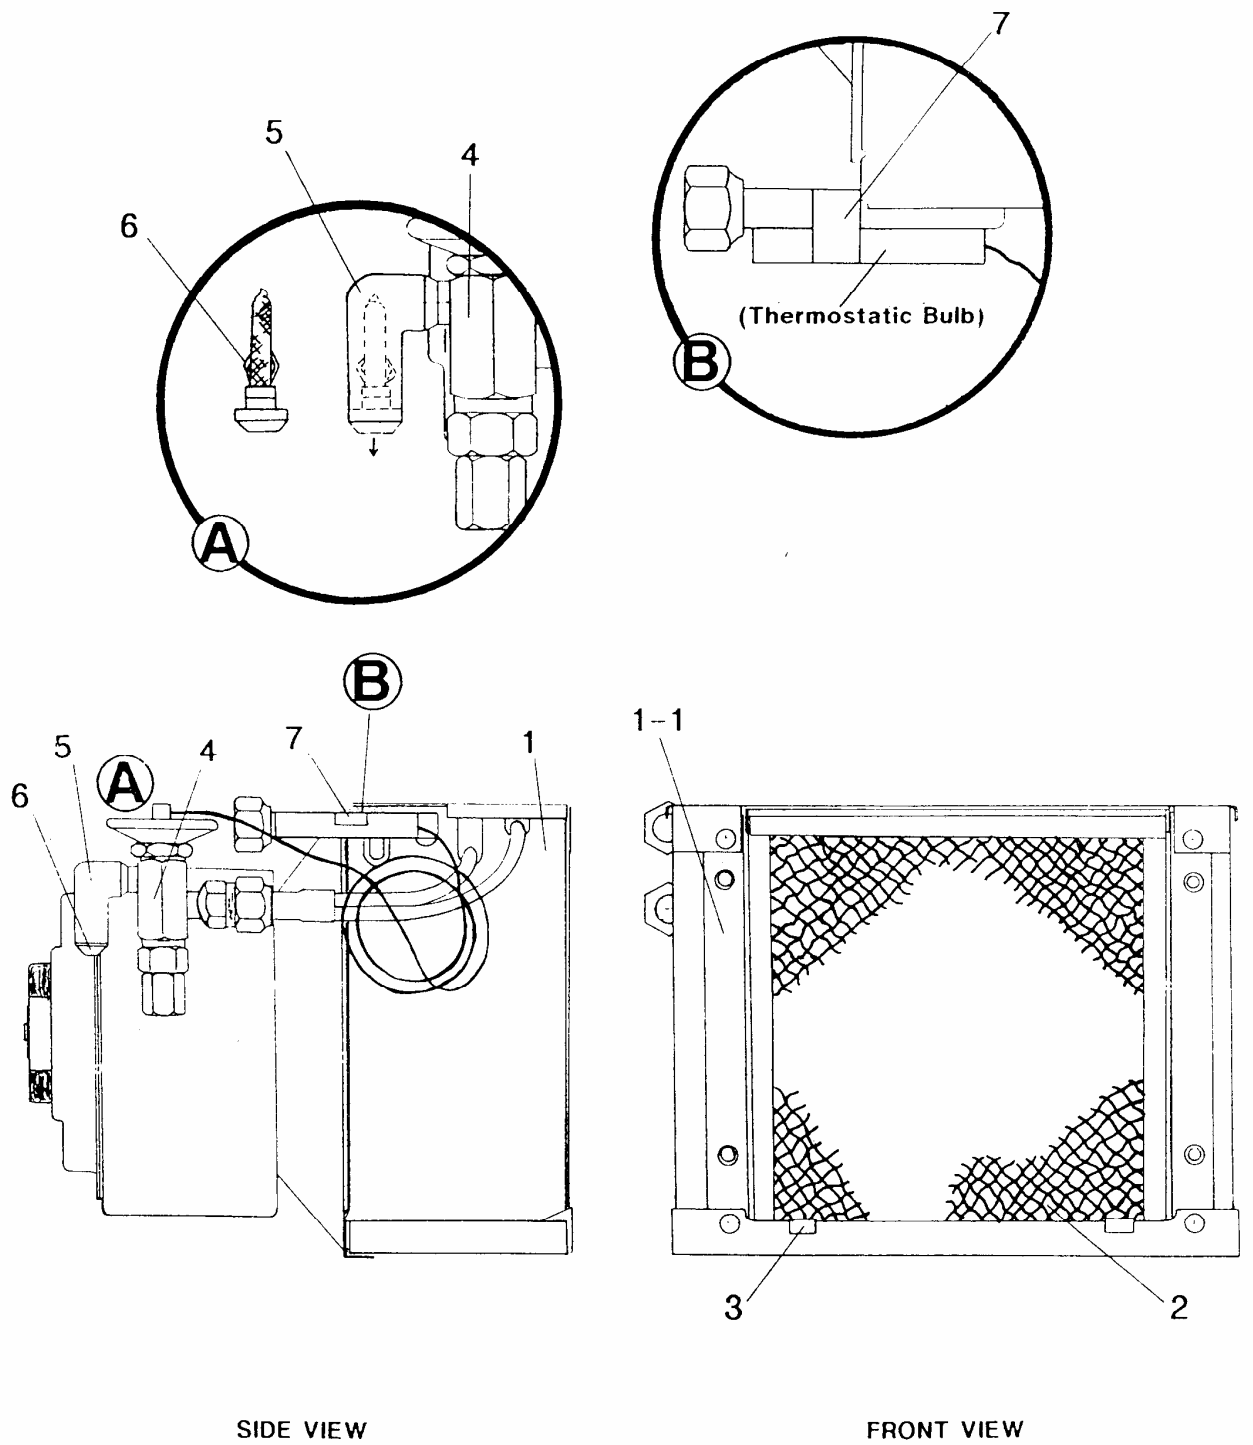

FIGURE 2
9.0.1 Refer to FIG.1 and FIG.2 on pages 9 through 12.